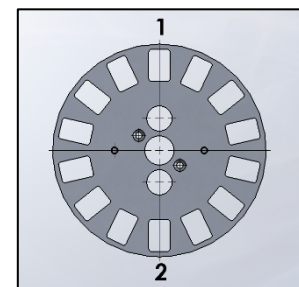

FIG. 26 – FIN INSTALLATION PATTERN
14. Repeat step 13 for remaining fins, making sure to install fins in an opposite pattern in order to keep the fixture balanced as shown in FIG. 26. Tighten the KNURLED NUTS and secure BRACKET COVER.